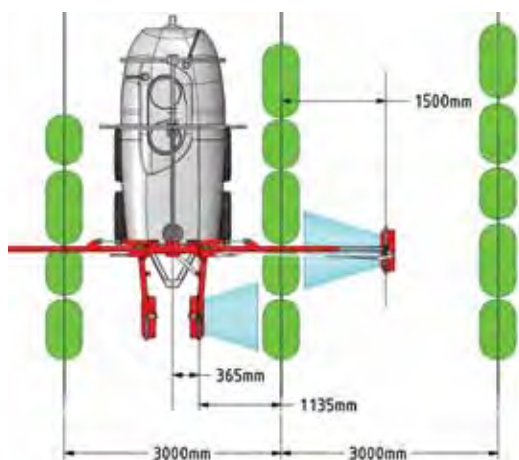
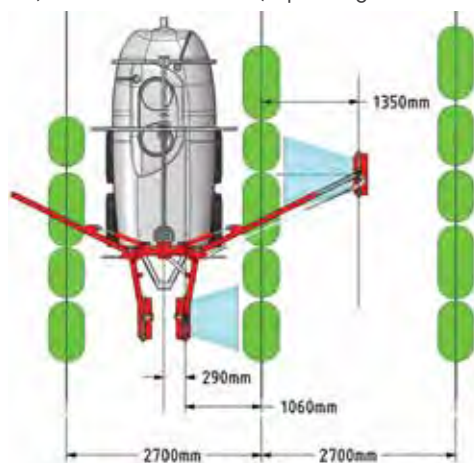

Figure 2.
Figure 1.
- A parallelogram system via a push-pull rod ensures the fans are positioned parallel to the canopy regardless of the boom arm position from fully open through to neatly parked, see example in Fig 2.
1. The main boom arms can be physically adjustable for length (see next page), via a series of adjustment holes as is the corresponding push-pull rod. Refer example in Fig. 2 showing a 2-row sprayer with the over-row boom set in the middle of a 3 metre row.
Fig. 1 is an example of the same sprayer in Fig 2 (with a boom set to 3.0) operating in a 2.7m row.